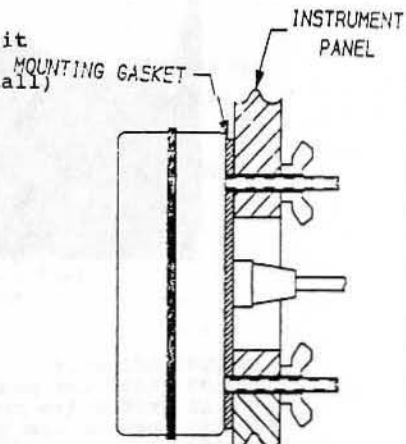

FIGURE 2
3. Attach threaded studs to the (4) bass inserts located on the rear of the instrument (DO NOT OVERTIGHTEN STUDS TO INSTRUMENT).
4. Place instrument (with studs attached) and gasket against the instrument panel and tighten the wing nuts evenly (DO NOT OVERTIGHTEN) to insure even compression of the soft gasket. (See Figure 2).